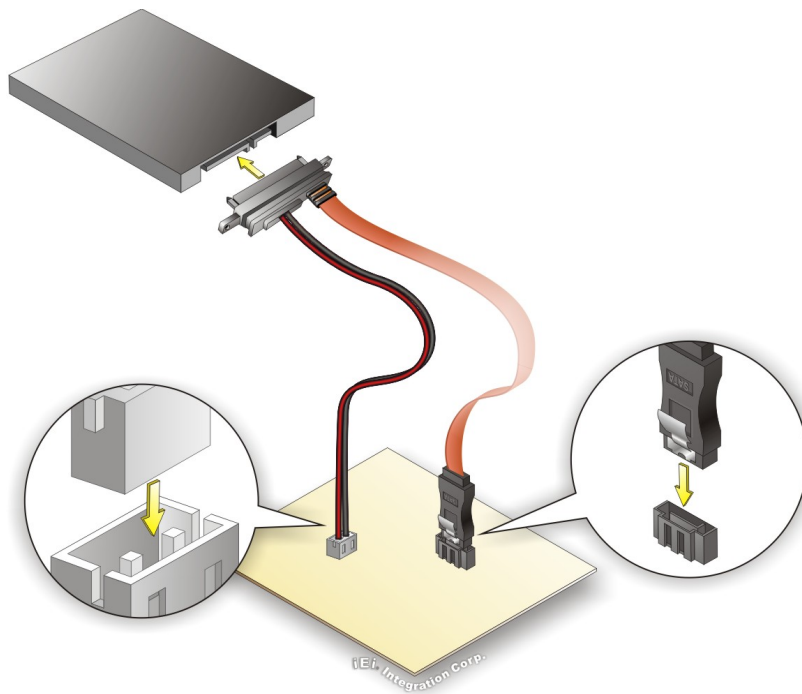

Figure 4-17: SATA Drive Cable Connection
- Step 2: Insert the cable connector.** Insert the cable connector into the on-board SATA drive connector and the SATA power connector. See **Figure 4-17**.
- Step 3:** **Connect the cable to the SATA disk.** Connect the connector on the other end of the cable to the connector at the back of the SATA drive. See **Figure 4-17**.